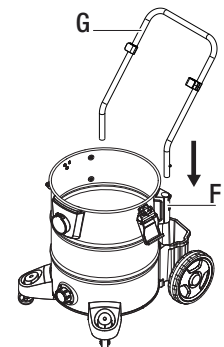

Fig. 5
- Insert the transport handle (G) into the side tank handles (F). (Fig. 5)